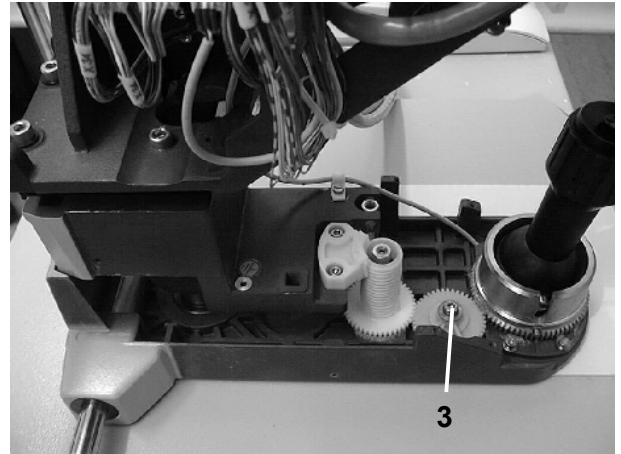

Fig. 27b
- Remove screw ((3) Fig. 27b) and then the spur gear.
- Enmesh the gears in such a way that they move easily but without too much backlash. Re-tighten screw ((3) Fig. 27b).